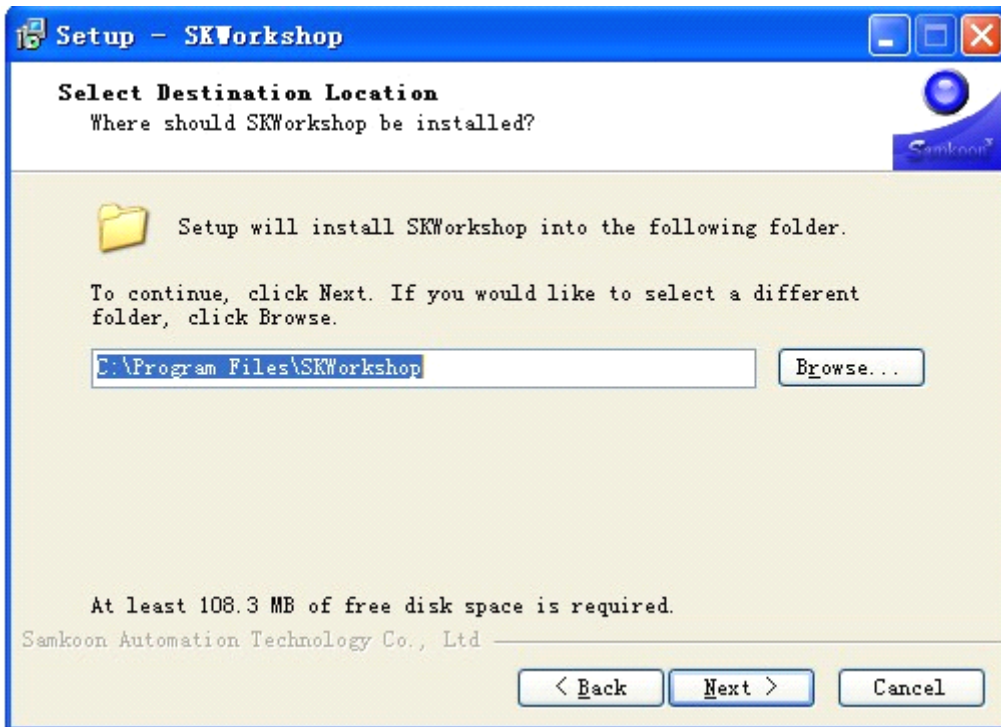

Figure 2-5: Installation directory selection page
- Users can fill in their own personal or company information, or choose the default setting “C:\Program File\SKWorkshop”, and then click “next”. See Figure 2-5.
If you want to cover the previous installation, click Yes; Otherwise, click No to go back to the dialog as shown in Figure 2-5 and reselect an installation directory.